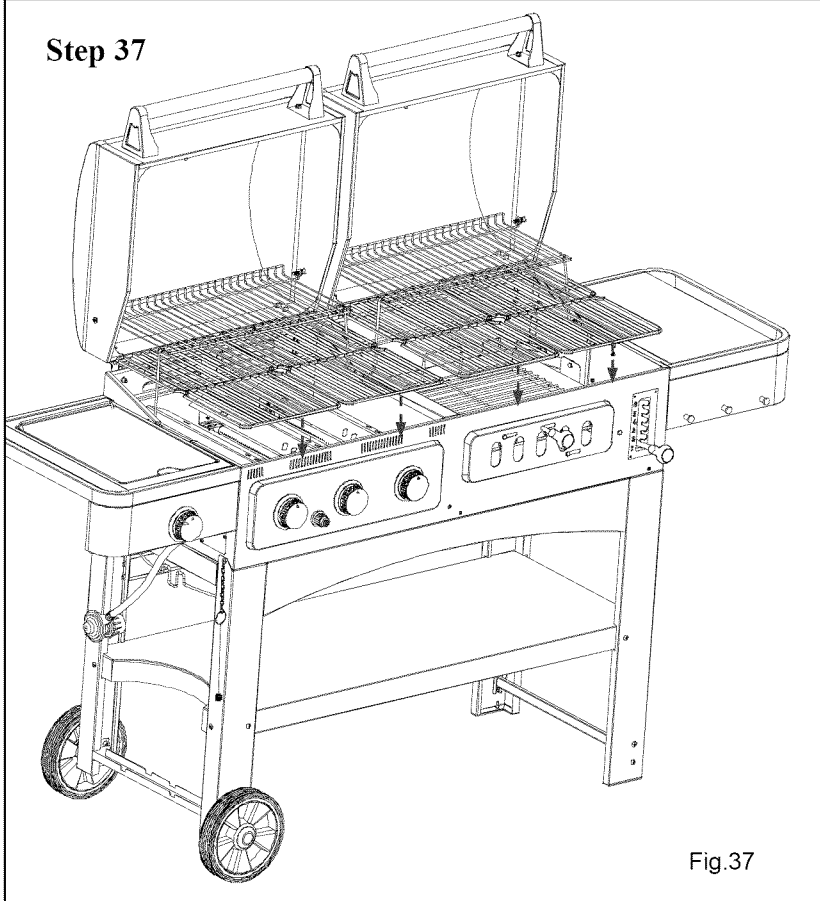

Fig.37
*Locate :* (4) Cooking Grids
*Procedure:* Refer to Fig.37 and place (4) Cooking Grids into their position in the Grill.